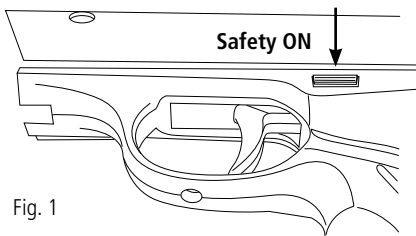

Fig. 1
- To put the safety to "ON", push the safety button to the right. In this position, the trigger cannot be pulled and the gun cannot be fired. (Fig.1)
⚠ CAUTION: Until you are actually ready to shoot, keep the safety button in the "ON" position (Fig. 1).